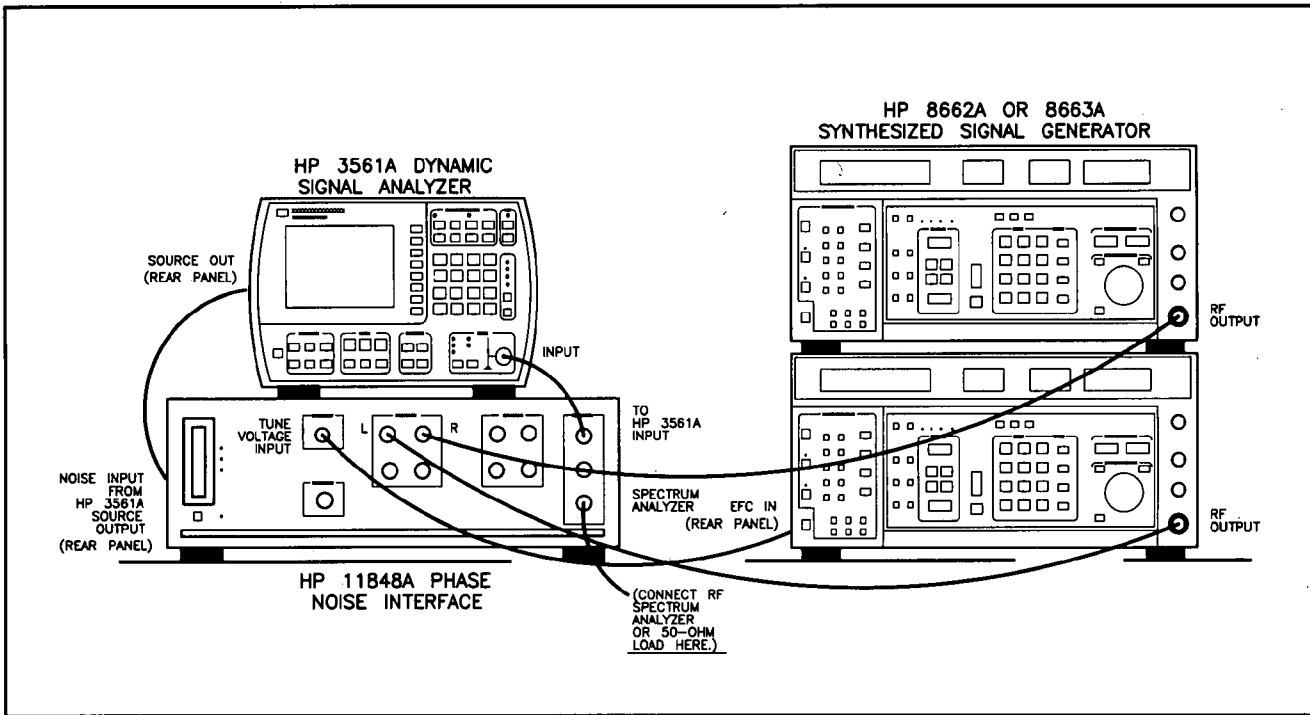

Figure 33. Spectral Purity Tests for Options 001 and 002 Setup
7. Connect the instruments as shown on the on-screen connection diagram and in Figure 33.